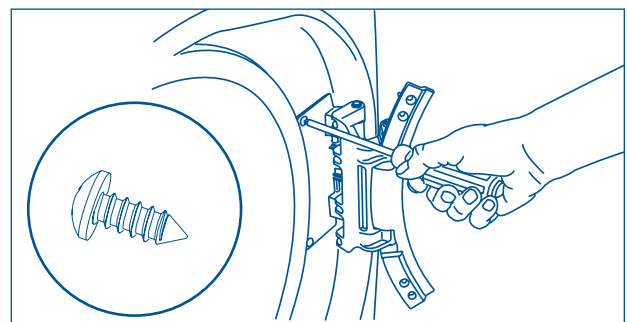

Figure 2-32.
6. Install 2 short, course-thread, panhead screws through hinge plate. (See Figure 2-32)